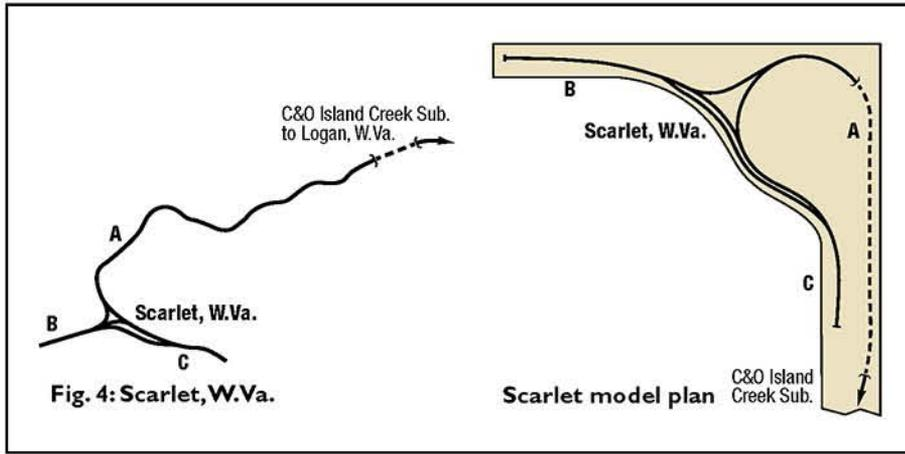

Fig. 4: Scarlet, W.Va.
This would be a great way to model the Twin Branch Coal operations at Scarlet, W.Va., at the end of the C&O's Island Creek Sub. The branch ends in a wye with two short branches serving a large coal loader. This method works well when at least one leg of the wye (B) is relatively short and one of the other legs (A) doesn't need to be fully scented all the way up to the wye (fig. 4).